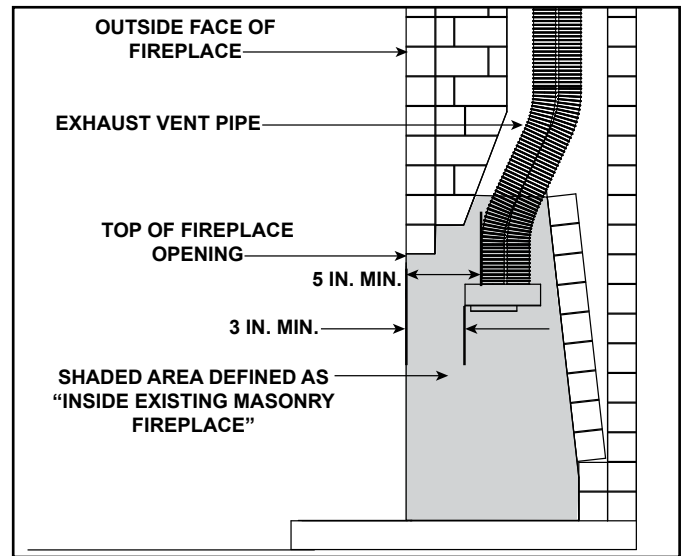

Figure 4.28. Existing Fireplace DV-46DVA-GCL Clearance Requirements
The coaxial to colinear adapter (DV-46DVA-GCL) is approved for installations into solid fuel masonry or factory built fireplaces that have been installed in accordance with the National, Provincial, State and local building codes. Reference Table 1 for required parts. The DV-46DVA-GCL must be recessed into existing masonry fireplace. See Table 2 and Figure 4.28.
- Remove top seal cap and insulation if equipped. See Section 6, "Appliance Preparation." Attach the DVP-2SL to the 8 inch starting collar. Follow installation instructions included with DVP-2SL kit. Attach the DV-46DVA-GCL adapter to the appliance starting collar with 3-1/2 in. self-tapping screws. See Figure 4.28.
The DV-46DVA-GCL adapter must be recessed into existing masonry fireplace. This measurement is taken from the top of the fireplace opening. See Table 2 and Figure 4.28.